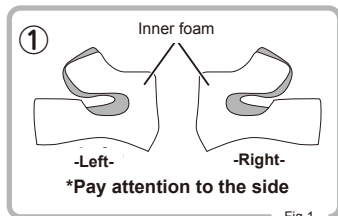

Fig.1
- ① Replace the Inner Foam properly by checking the side of the Cheek Pad Inner Foam. (Fig.1)